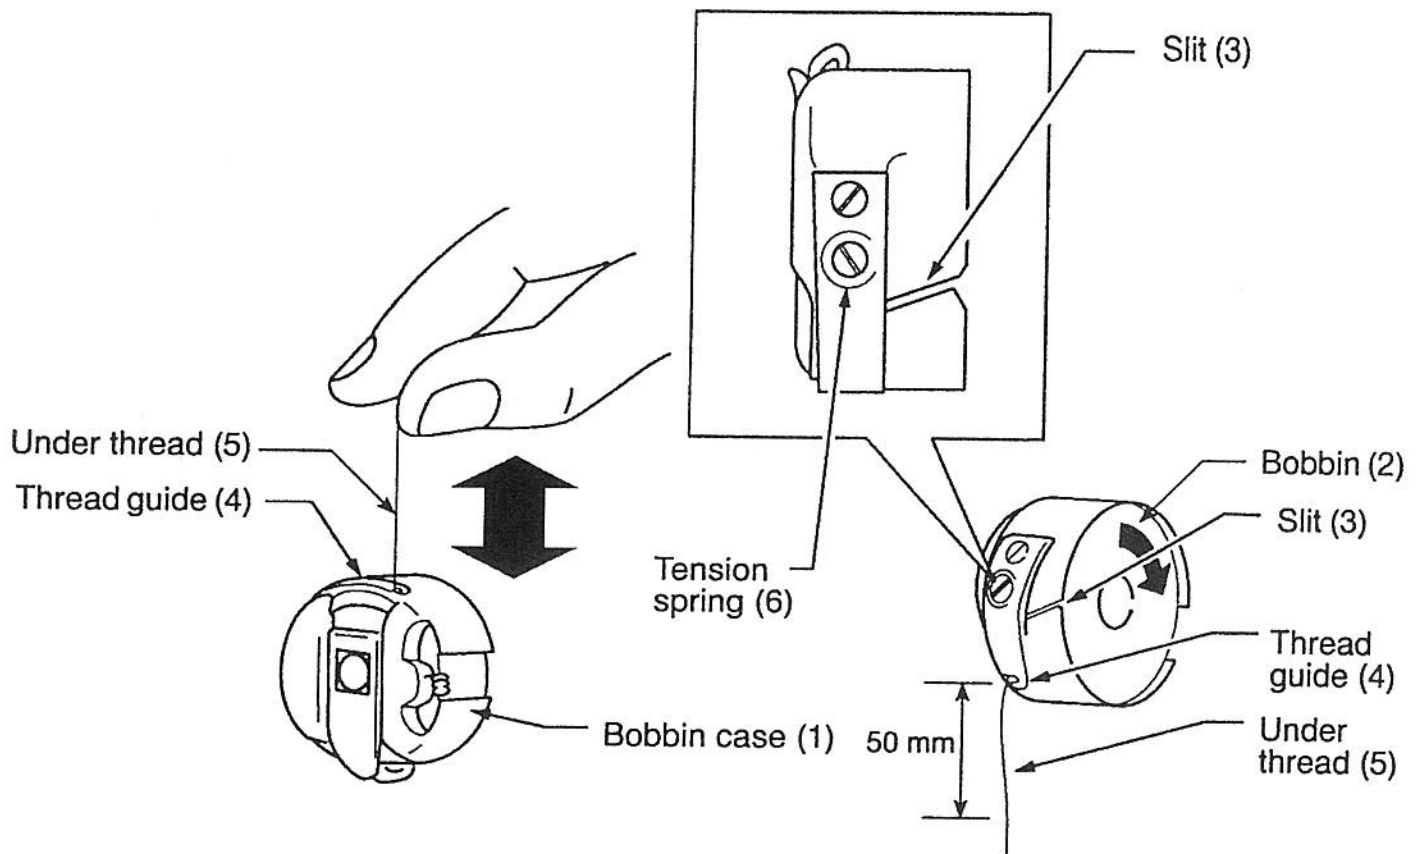

Fig. 2-3
1. Set the bobbin (2), on which thread has been correctly wound, into the bobbin case (1).
2. Pass the under thread (5) through the slit (3) and draw it out through the thread guide (4). Pull the thread to make sure that the bobbin rotates in the direction indicated in Fig. 2-3.
3. Adjust the under thread tension with the screw on the tension spring (6).